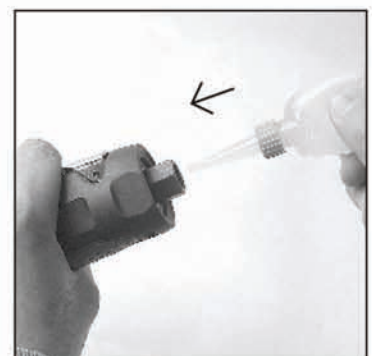

Figure 7
2. Place a few drops of air tool oil into the air inlet. (See Figure 7)